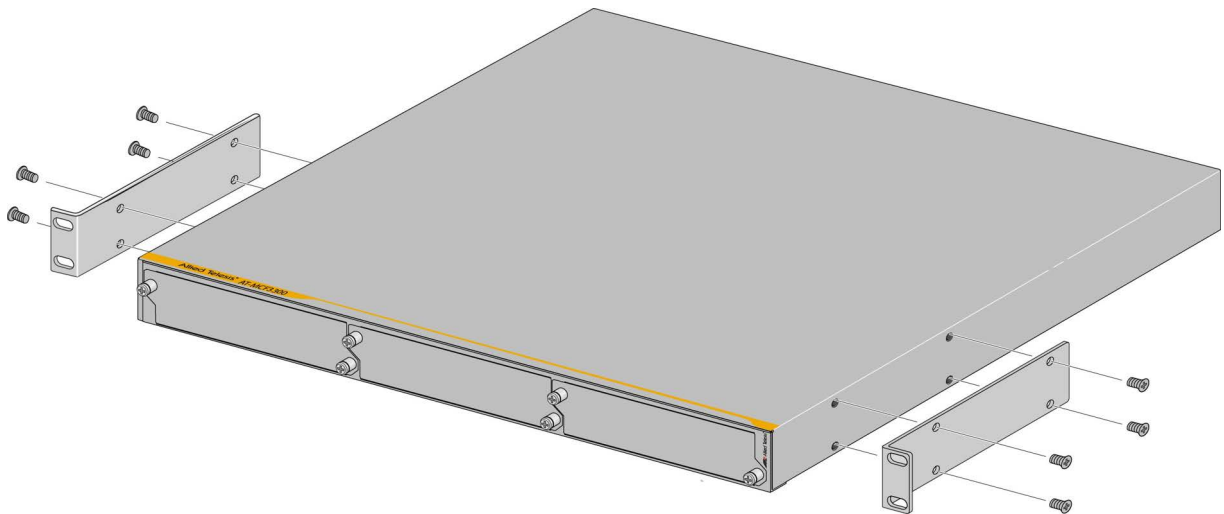

Figure 48. Attaching the Rack-mount Brackets to the MCF3300 Chassis
2. Attach the two rack-mount brackets to the sides of the media converter with the eight M4x6mm screws included with the unit. Refer to Figure 48.